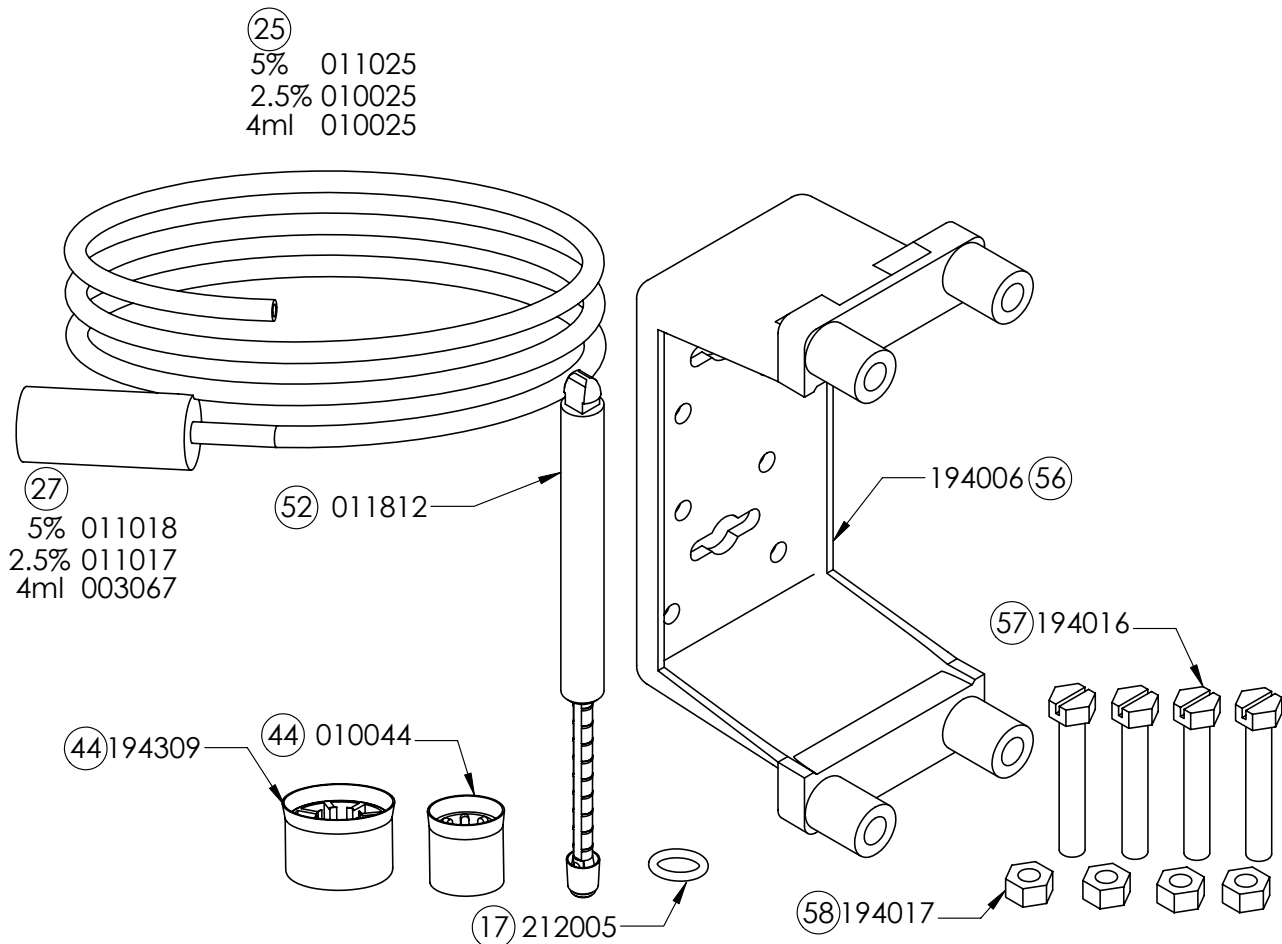

Fig.1
The injector is packaged with the following items: (shown in figure 1)
REPLACE DOSAGE PISTON AND SHAFT SEAL: The injector is shipped with a spare Dosage Piston (44) and shaft seal (17), see Fig. 1, as these are normal wear parts, replace both when solution injection is less than set amount.